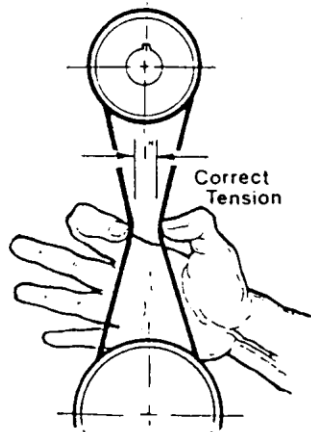

FIGURE 6: BELT TENSION;
7. Pull down on the motor to achieve the desired belt tension. Correct tension is when the belt can be deflected approximately $\frac{1}{2}$ " ($\frac{1}{4}$ " each side of belt) at the center of the belt aspen using light finger pressure (Fig.6).